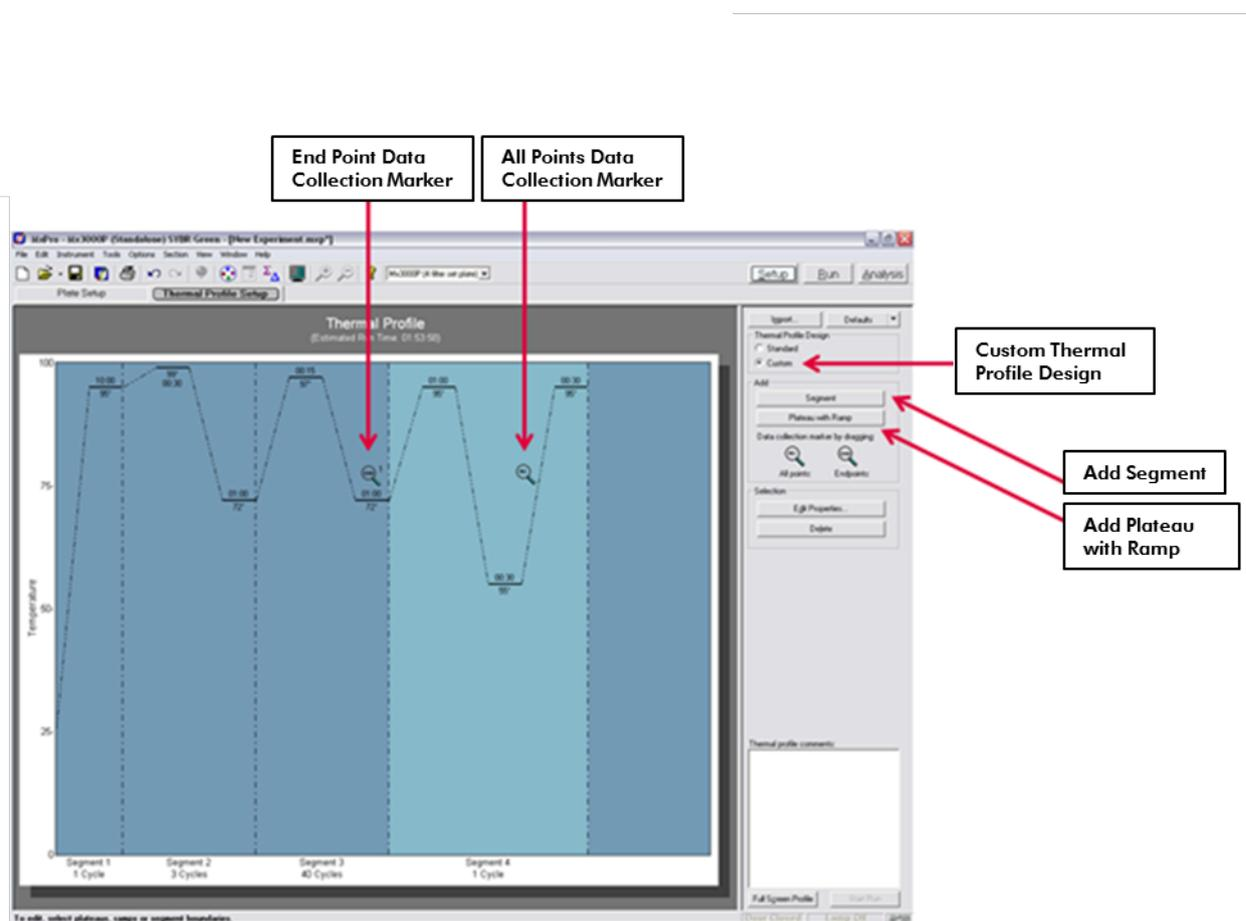

Figure 2. “Thermal Profile Setup” screen.
6. Click "Next" to go to the "Thermal Profile Setup" tab (see Figure 2). In the "Thermal Profile Design" panel to the right, select "Custom." Select "Segment 2" and delete. Select "Segment 1" and click "Add Segment" twice. Select "Segment 2" and click "Add Plateau with Ramp." Select "Segment 3" and click "Add Plateau with Ramp." To change the default setting for the thermal profile, click directly on the number that needs to be changed. Adjust the parameters to reflect the following: